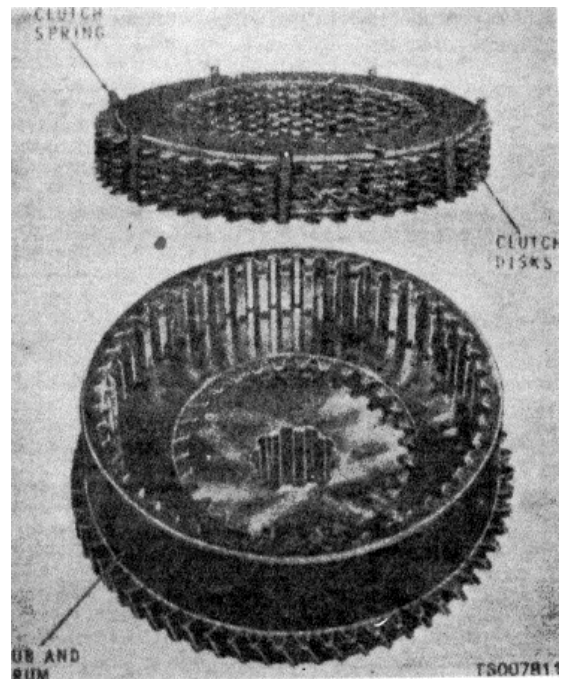

Figure 14-8. Assembling Forward and Reverse Clutches
c. Install seal (18) on the hub of the hub and drum. Install seal (19) on piston (17). Install the piston in the hub and drum.
d. Install discs (14 and 15) and springs (16) in the hub and drum, making sure that the first disc inserted has splines which engage the hub and drum and the second disc has splines which engage the gear assembly. Alternate discs until all eight are installed. Figure 14-8 shows clutch assembly. Install end plate (13, figs. 14-3 and 14-4) in the hub and drum and secure the assembly with retaining ring (12).